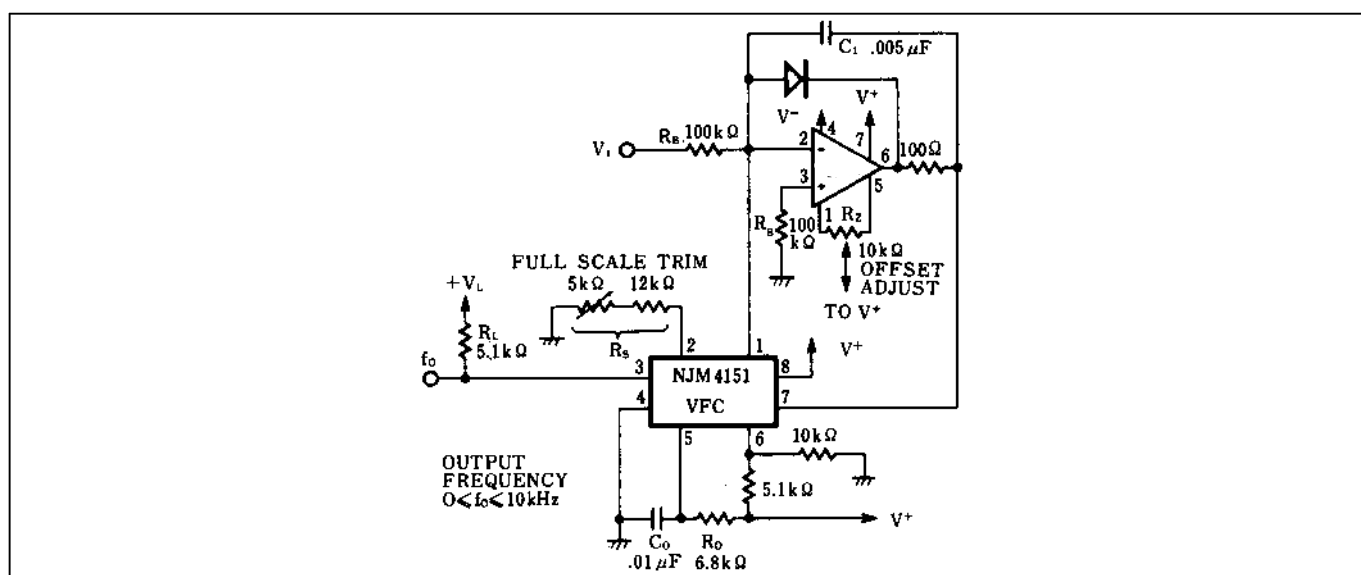

Figure 4. Precision Voltage-to-Frequency Converter
In this application (Figure 4) the NJM4151 VFC is used with an operational amplifier integrator to provide typical linearity of 0.05% over the range of 0 to -10V. Offset is adjustable to zero. Unlike many VFC designs which lose linearity below 10mV, this circuit retains linearity over the full range of input voltage, all the way to 0V.
1. Set $R_s = 14\text{k}\Omega$ or use a $12\text{k}\Omega$ resistor and $5\text{k}\Omega$ pot as shown in the figures. (The only exception to this is Figure 4.)
b) For the precision mode circuit of Figure 4, set $R_B = V_{10}/100\mu\text{A}$ where V_{10} is the full scale input voltage. Alternately the op-amp inverting input (summing node) can be used as a current input with full scale input current $I_{10} = -100\mu\text{A}$.
- I. Design a precision VFC (from Figure 4) with $f_0 = 100\text{kHz}$ and $V_{10} = -10\text{V}$.